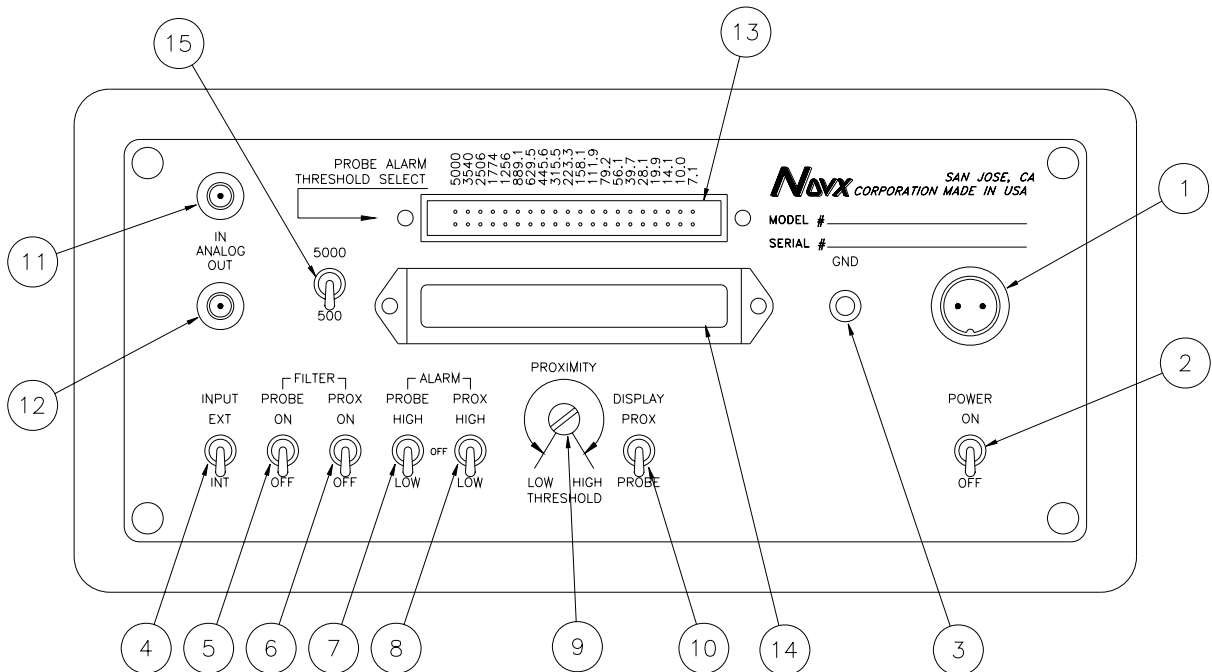
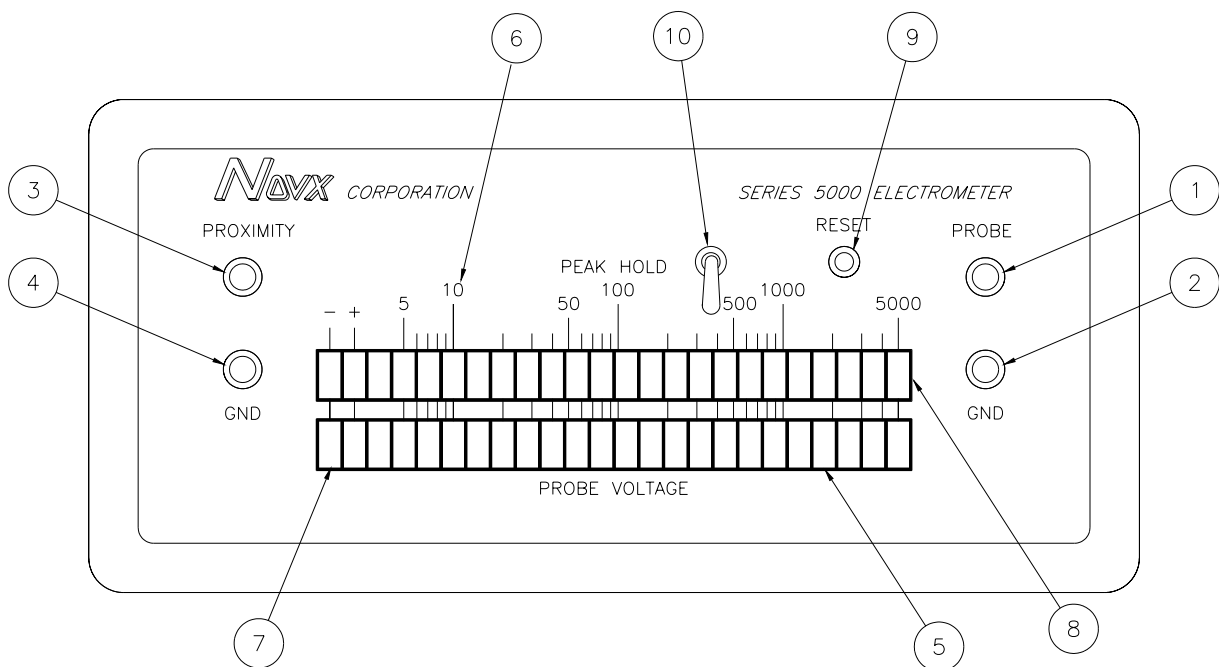

Figure 1: Rear-Panel
Figure 2: Front-Panel
Look first at the rear-panel of the instrument, see Figure 1. This area contains the power connection jack and various instrument settings to be adjusted prior to instrument operation.
Insert the power cord, notched side down, into the power jack (Figure 1, item 1). Make sure the prongs on the jack fit smoothly and fully into the openings in the connector. Turn the locking ring in a clockwise motion to assure the connector will remain securely attached.
The power switch is located immediately below the power jack (Figure 1, item 2). This is a simple toggle switch. Press up to turn the power on and press down to turn the power off.
The rear ground connector is one of three ground positions (Figure 1, item 3) the other two connectors are located on the front-panel. You can insert a banana plug, straight wire or spade lug in this rear ground connector.
There are two filter switches that control the sensitivity to higher frequency voltages. The probe filter switch controls the probe side (Figure 1, item 5) and the proximity filter switch controls the proximity side (Figure 2, item 6). With the filter off, the bandwidth is >100 KHz and with the filter on, the bandwidth is 5 Hz. The probe and proximity filter switches can be set independently. Press up to turn the filter on, press down to turn the filter off.
Two alarm switches control the audible alarms that will sound when the instrument senses an ESC level in excess of a preset limit (Figure 2, items 7 and 8). The probe and proximity thresholds are set independently and can be set at different voltages. Note that the alarm switches have three available positions *high*, *low* and *off*. *High* increases the sound level of the alarm; *low* decreases the sound level; *off* deactivates the audible alarm.
The proximity threshold control is used to adjust the voltage level at which the proximity alarm will sound (Figure 1, item 9). Turn the knob clockwise to have the alarm sound at a higher voltage. Turn it counterclockwise to have the alarm sound at a lower voltage.
The display proximity/probe switch is again a simple toggle switch (Figure 1, item 10). Press up for the instrument to display readings related to the proximity monitor channel (general ESC activity in the vicinity of the work area). Press down for a display of the probe monitor channel (ESC generated by the operator at a workstation).
The analog in/out jacks use conventional BNC connectors (Figure 1, items 11 and 12). Insert the connector into the jack until the connector slot fits over the jack pin. Turn clockwise until the connector is secure. The analog out function can be used to feed information from the instrument to a chart recorder, a computer or other electronic devices used to store or provide hard copies of data generated by the instrument.
The analog-in function permits ESD data input from an external source such as a workstation instrument. To utilize the analog in function, in addition to having an external data source connected to the analog in jack, you must also make sure that the input Ext/Int switch (Figure 1, item 4) is in the up position. This setting informs the instrument that the data source will be external to the instrument.
The probe alarm threshold select enables you to select the voltage level at which the probe alarm will sound (Figure 1, item 13). A scale of numbers, beginning with 7.1 and ending with 5000, shows the voltage level choices available. A discreet jumper is used to select the desired voltage level. To change the probe alarm threshold, simply remove the jumper that comes with the 5000 and reinsert it at the desired voltage location.
The training tower drive connector enables you to connect the instrument (Figure 1, item 14) to a Novx Series 6150 Training Light Tower (see Training Light Tower section of this manual for a more complete description of this option).
An optional switch enables you to setup for a 5000V or a 500V instrument (Figure 1, item 15). Simply toggle the switch up for 5000V or down for 500V full-scale.
The probe jack enables you to insert a single-wire wrist-strap connection to monitor operator-generated ESC (Figure 2, item 1). This is a standard banana jack.
The proximity jack enables you to insert an antenna to monitor general ESC activity in the vicinity of the workstation (Figure 2, item 3). Again, this is a standard banana jack. NOTE: This input may be used for other than an antenna input, e.g. a probe input.
The ground connectors enable you to connect a grounding device for either the probe or proximity monitoring function (Figure 2, items 2 and 4), using a standard banana plug.
The probe voltage LED display shows the polarity and voltage level detected by the instrument (Figure 2, item 5). The left two lights indicate polarity (Figure 2, item 7). The next two spaces are blank, and the balance of the lights display continuous real-time measurement of voltage levels. The first light activates at 7.1V, the second at 10V and so on.
The peak hold LED display shows the polarity and *highest* voltage level detected by the instrument (Figure 2, item 8). The left two lights indicate polarity and the lighted section of the peak hold display shows the highest voltage detected since the peak hold reset button was last pressed.
The reset button is used to reset the peak hold display (Figure 2, item 9). Simply press the button to reset.
The optional high voltage power supply switch (Figure 2, item 10) may be used for charge plate decay time testing.
To install the remote probe, insert the probe cable's BNC connector into the Analog-in jack on the front-panel of the instrument or the Analog-in jack (Figure 1, item 11) on the rear-panel. A rear-panel toggle switch selects the Analog-in function (Figure 2, item 4).
2. Connect one wire to the probe input banana plug (Figure 2:2, item 1), and the ground wire to the gnd banana plug (Figure 2:2, item 2). A coaxial banana to banana cable may be used, but be aware of the capacitance added by the cable.
3. Activate the power supplies by momentarily pressing the power switch (Figure 2, item 10). Press up for $\approx +1200\text{VDC}$ or press down for $\approx -1200\text{VDC}$.